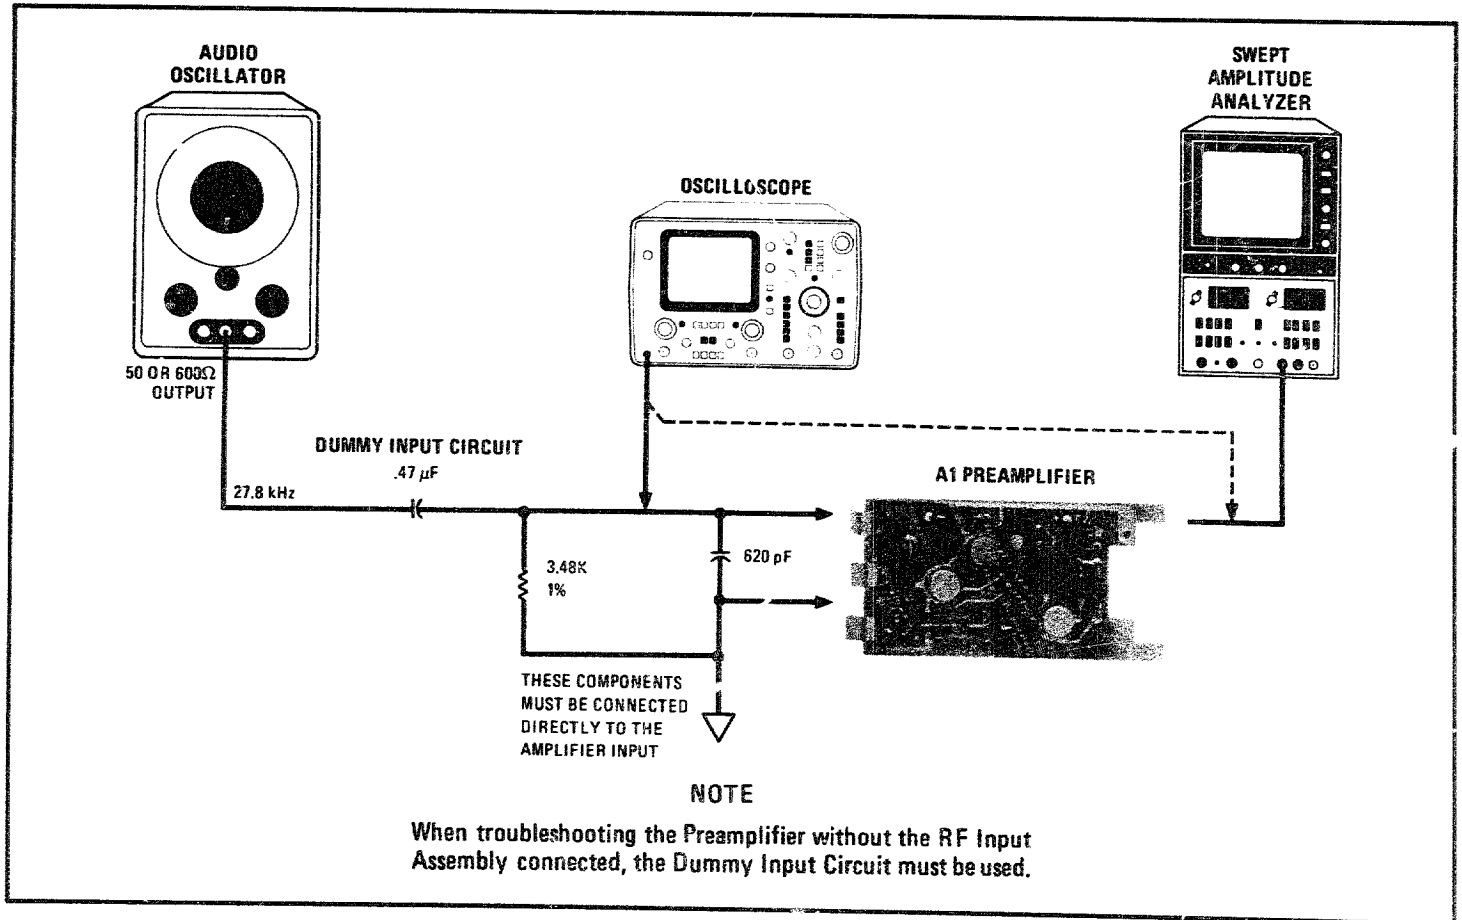
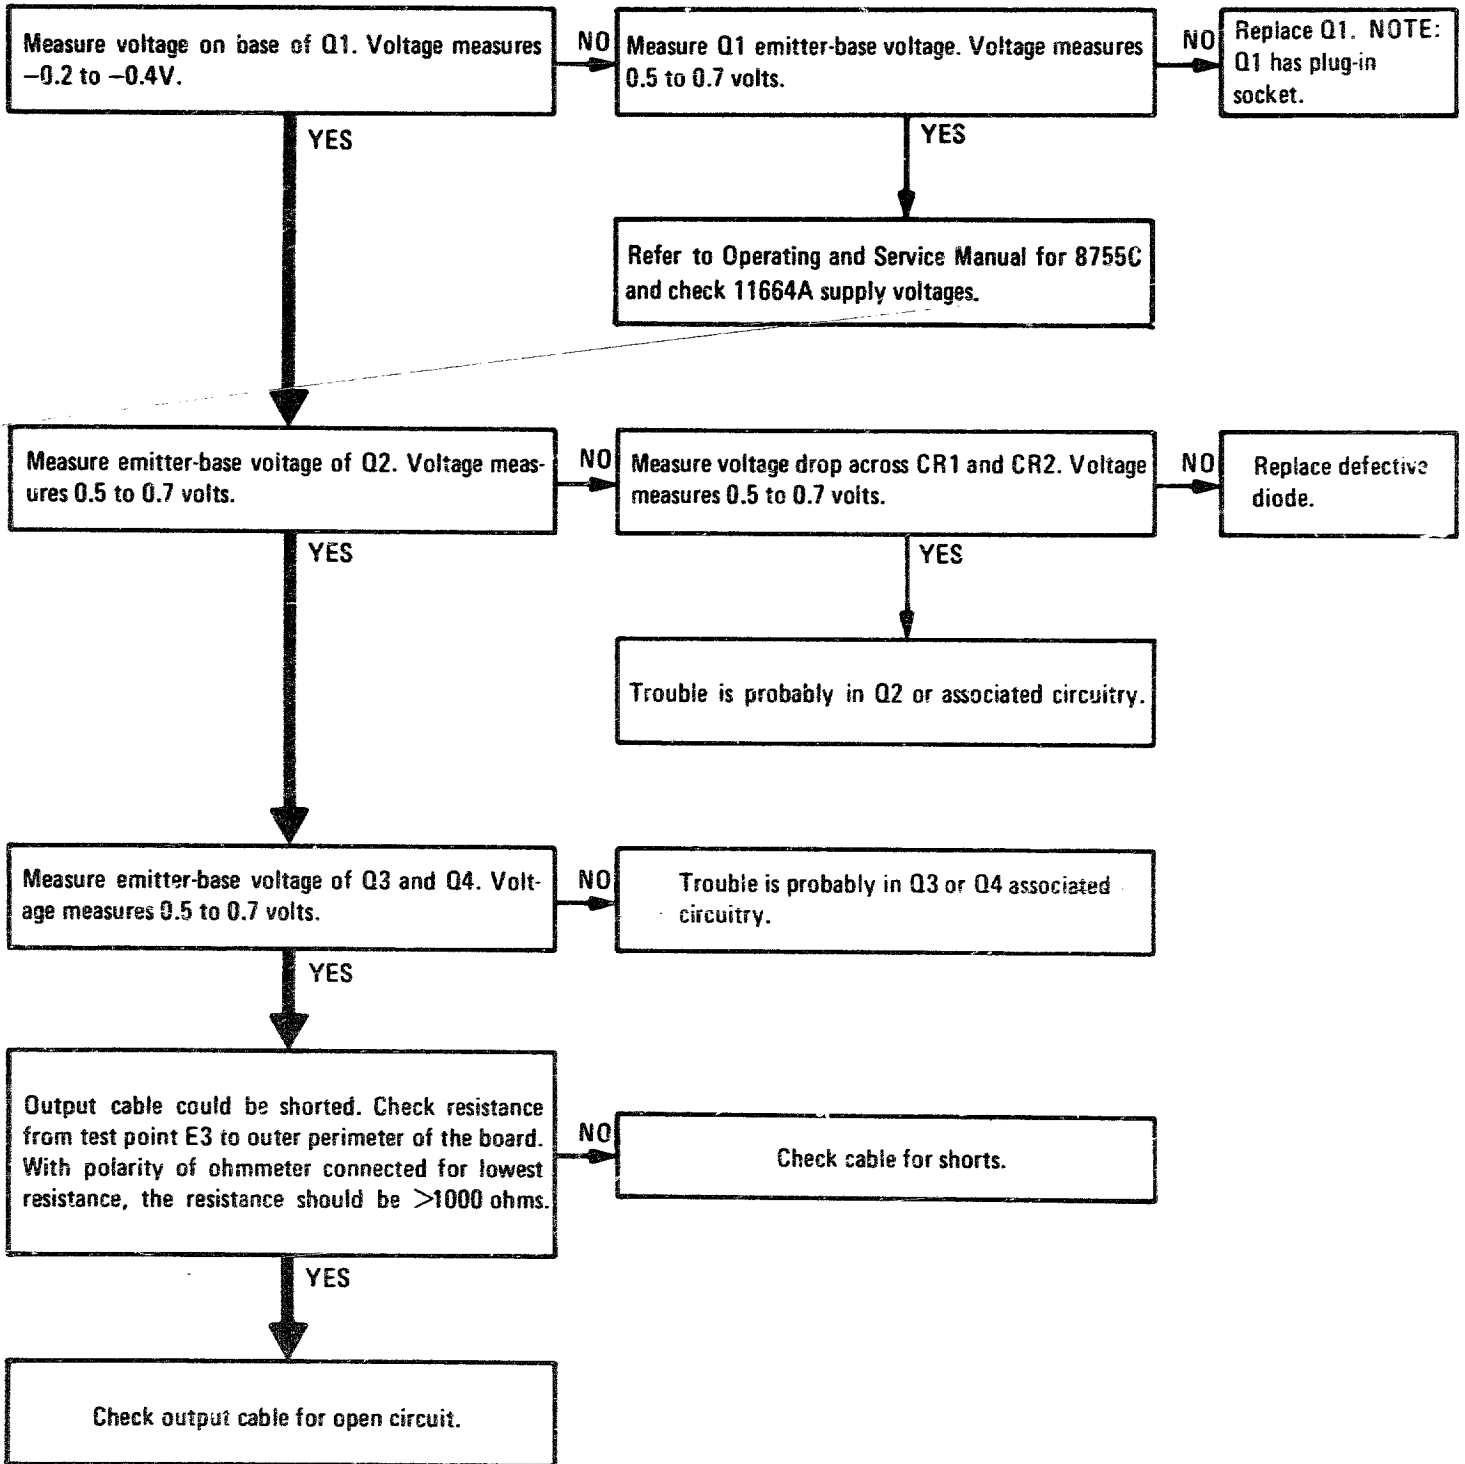

Figure 8-6. Test Setup for Measuring AC Gain
Figure 8-7. Isolating Trouble to an Individual Component in the A1 Preamplifier
3. If the amplifier is suspected, follow the paths of Figure 8-7 to find the bad component.
In order to troubleshoot the Preamplifier, a dummy input circuit (Figure 8-6) must be connected to the input of the Preamplifier. This circuit will provide the proper bias to the input transistor. In normal operation the Hot Carrier Diode in the RF Input Assembly provides the load for the Preamplifier. Follow the procedures in Figure 8-7.
If the equipment used in Figure 8-6 is not available, DC measurements may be used. The same dummy input circuit may be used to preserve the input bias. Any trouble will most likely shift the DC-coupled voltages far from their normal values. Start by measuring the input bias. If this voltage is >50% high or low, the voltages in the entire amplifier may be off. From this point on, standard transistor troubleshooting techniques should be used.
Connect Dummy Input Circuit as shown in Figure 8-6. But do not connect test equipment for this test.